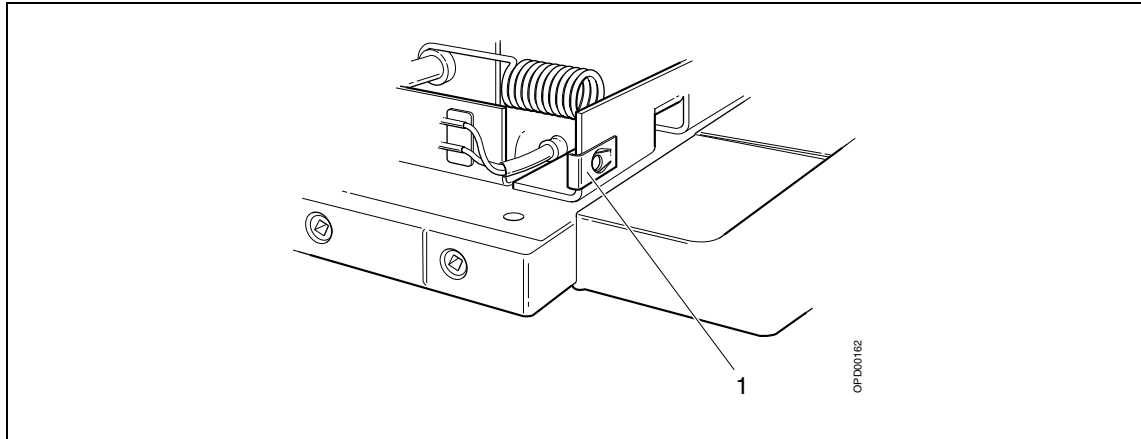

Fig. 4 Installation of thread
1. Install a new thread (1/Fig. 4).